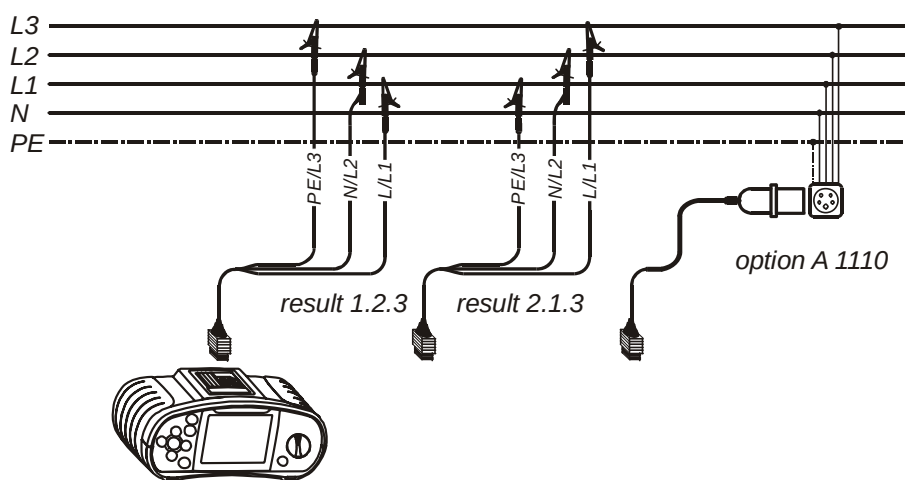

Figure 5.37: Connection of universal test cable and optional three phase cable
Step 2 Connect test cable to the EasiPLUS instrument and follow the connection diagram shown in figure 5.37 to test phase sequence.